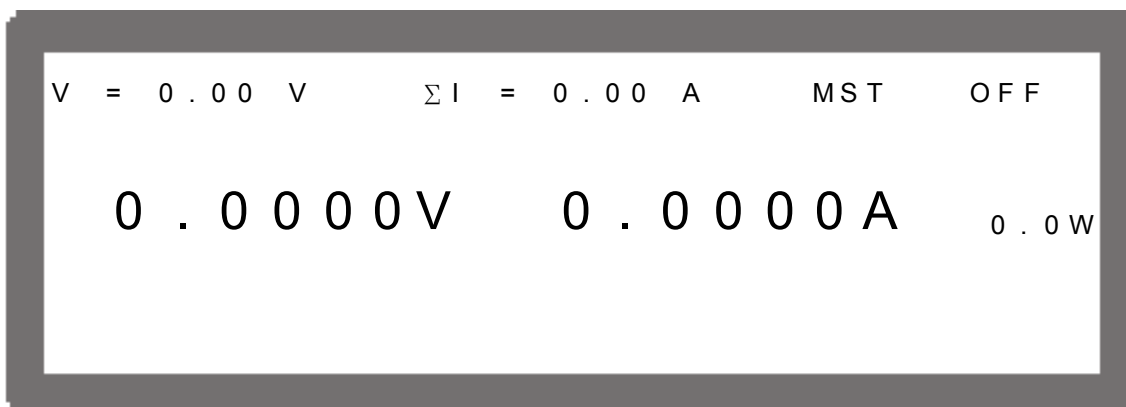

Figure 3-43
3. Press "ENTER" to confirm, it will skip to the series/parallel MASTER page automatically as Figure 3-43 shows.